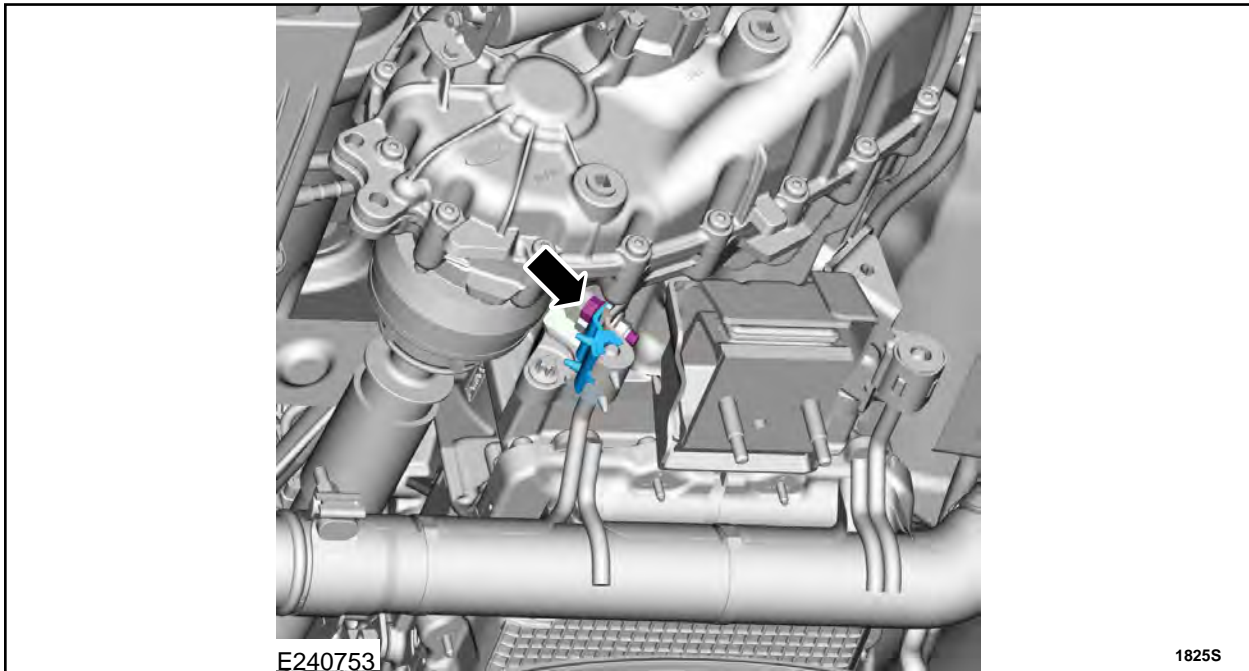

FIGURE 27
44. Remove the bolt and the LH isolator cap. See Figure 27.